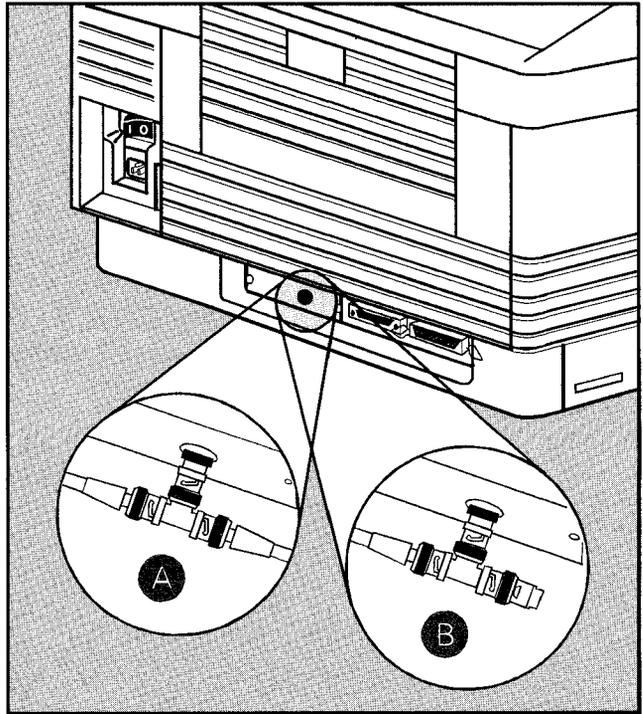

Figure 3-7. Connecting the Printer to the Network
2. Attach another ThinLAN coaxial cable section or a 50-Ohm terminator to the other side of the BNC "T" connector. If you are attaching the HP LaserJet printer in the middle of your network you must use another ThinLAN coaxial cable section. See (A) in Figure 3-7. If you are attaching the printer to the end of your network, you must use a 50-Ohm terminator. See (B) in Figure 3-7.
Connection ③ is also incorrect because it is not made through a BNC “T” connector; in addition, there must be a 50-Ohm terminator (not an adapter card) at the end of the ThinLAN cable. Connection ③ in Figure 3-7 shows the correct way to connect a printer at the end of a ThinLAN network cable.